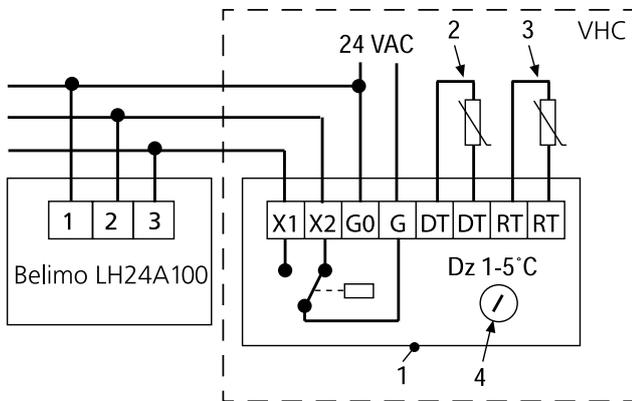

Figure 5. The wiring diagram shows the connections with the Belimo damper motor against the VHC. NOTE! Only available with 24 V AC power supply.
- Key to Figure 5.
- 2 = Duct temperature sensor (DT)
- 3 = Room temperature sensor (RT)